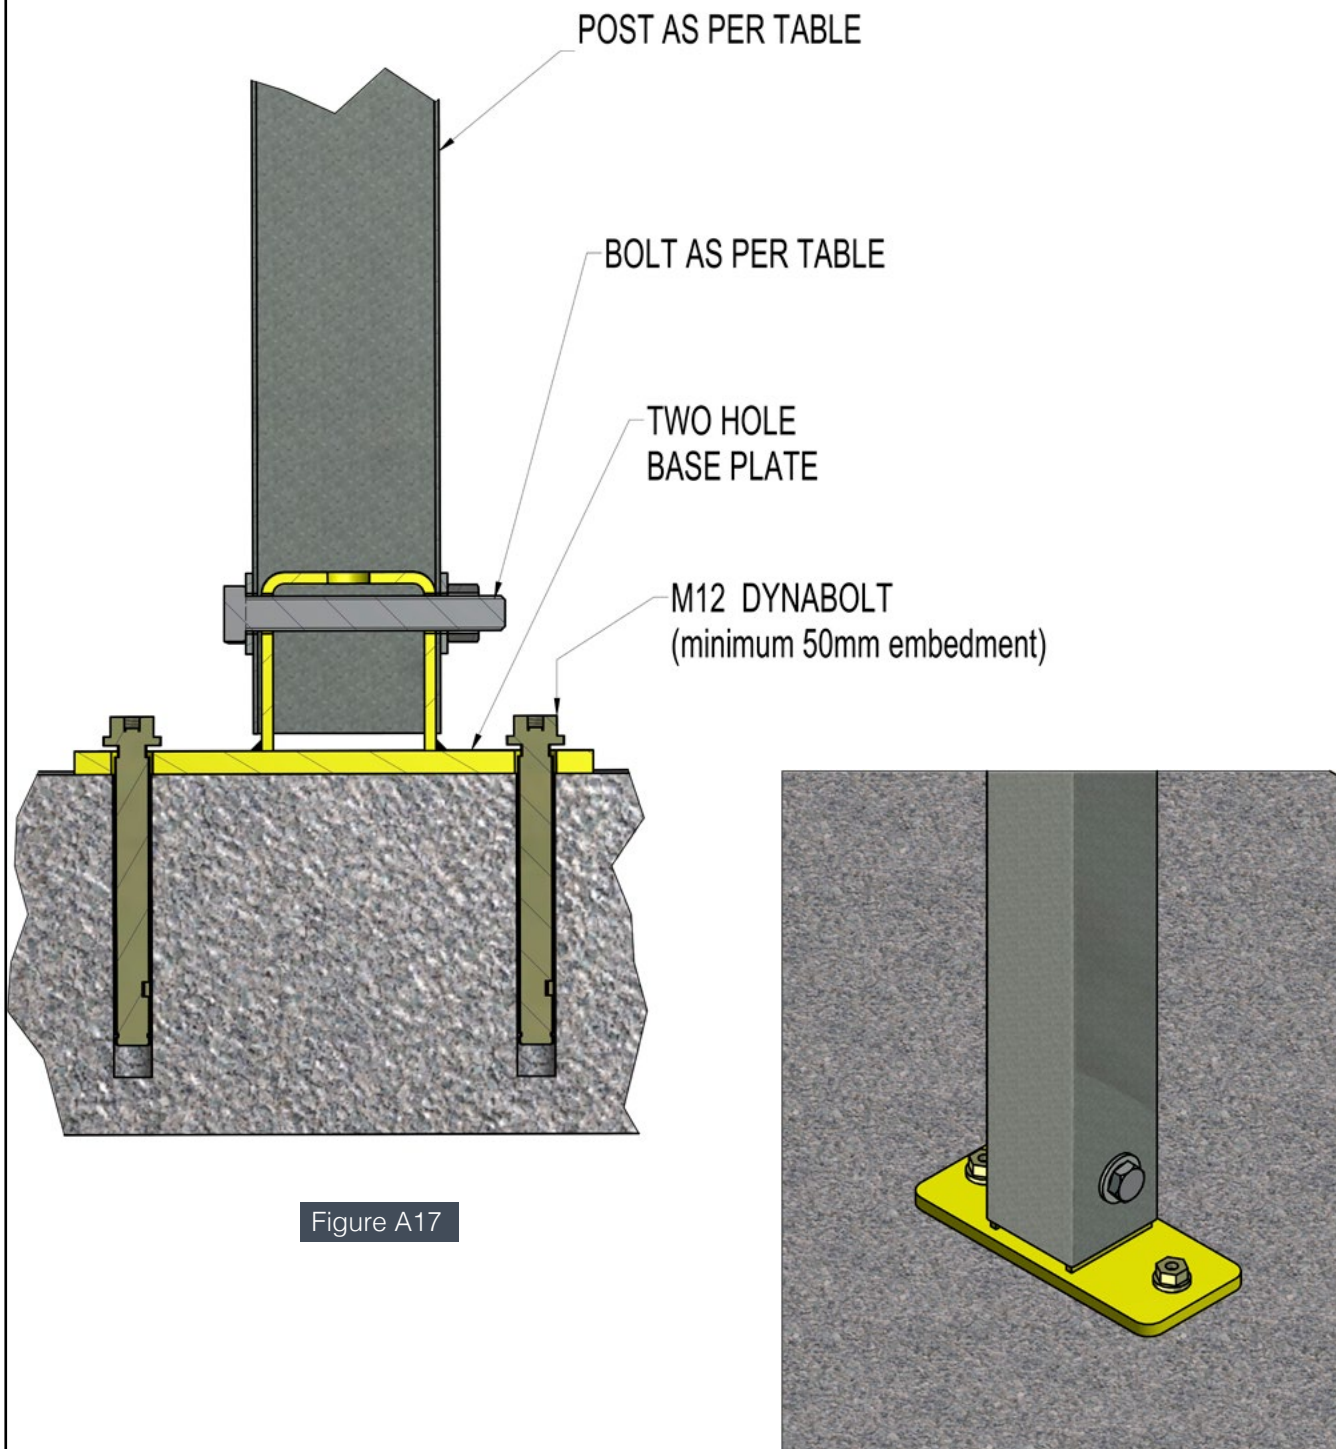

Figure A17
**Column to Slab (see Figure A17)**